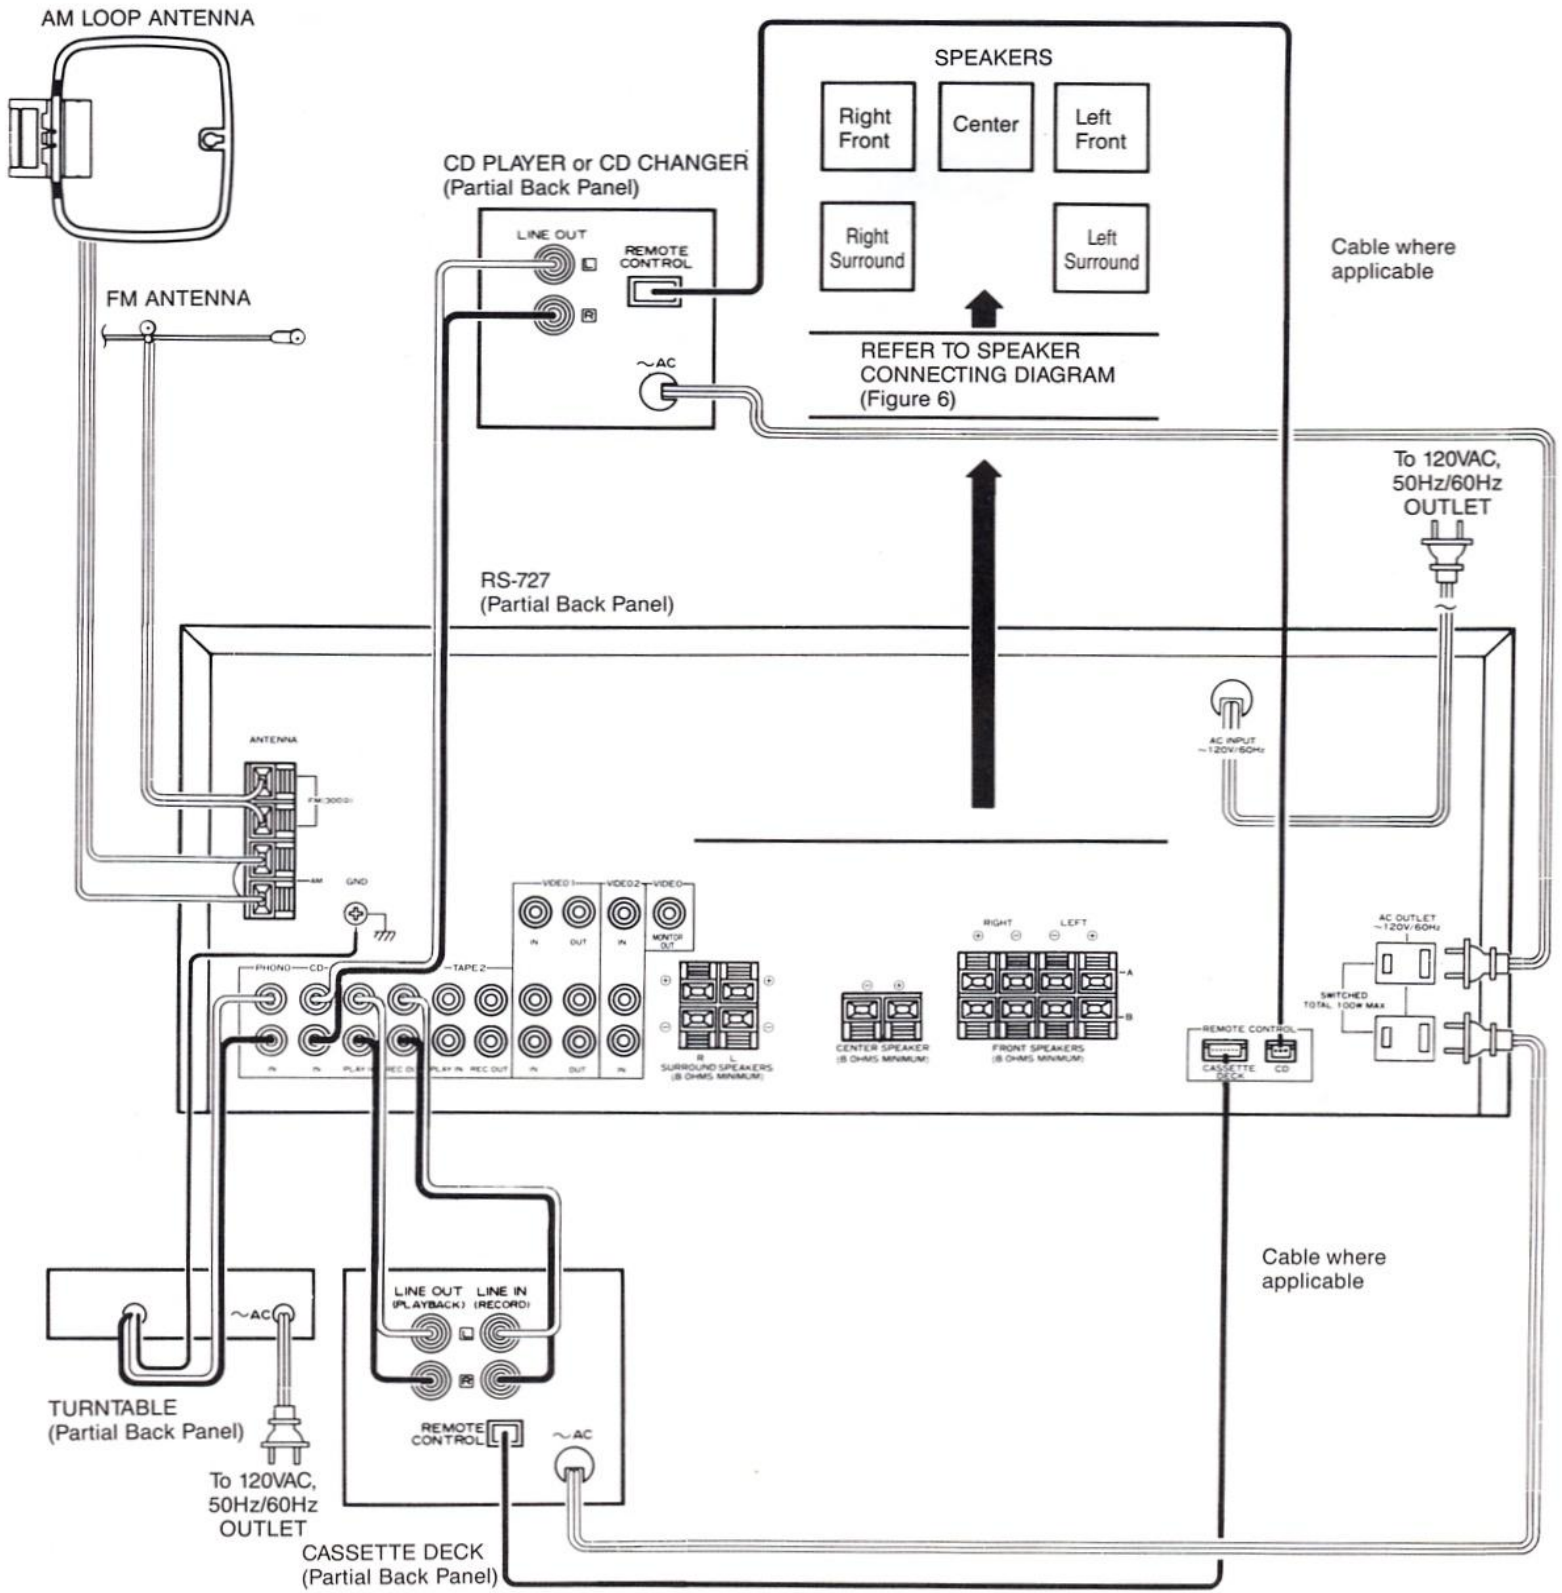
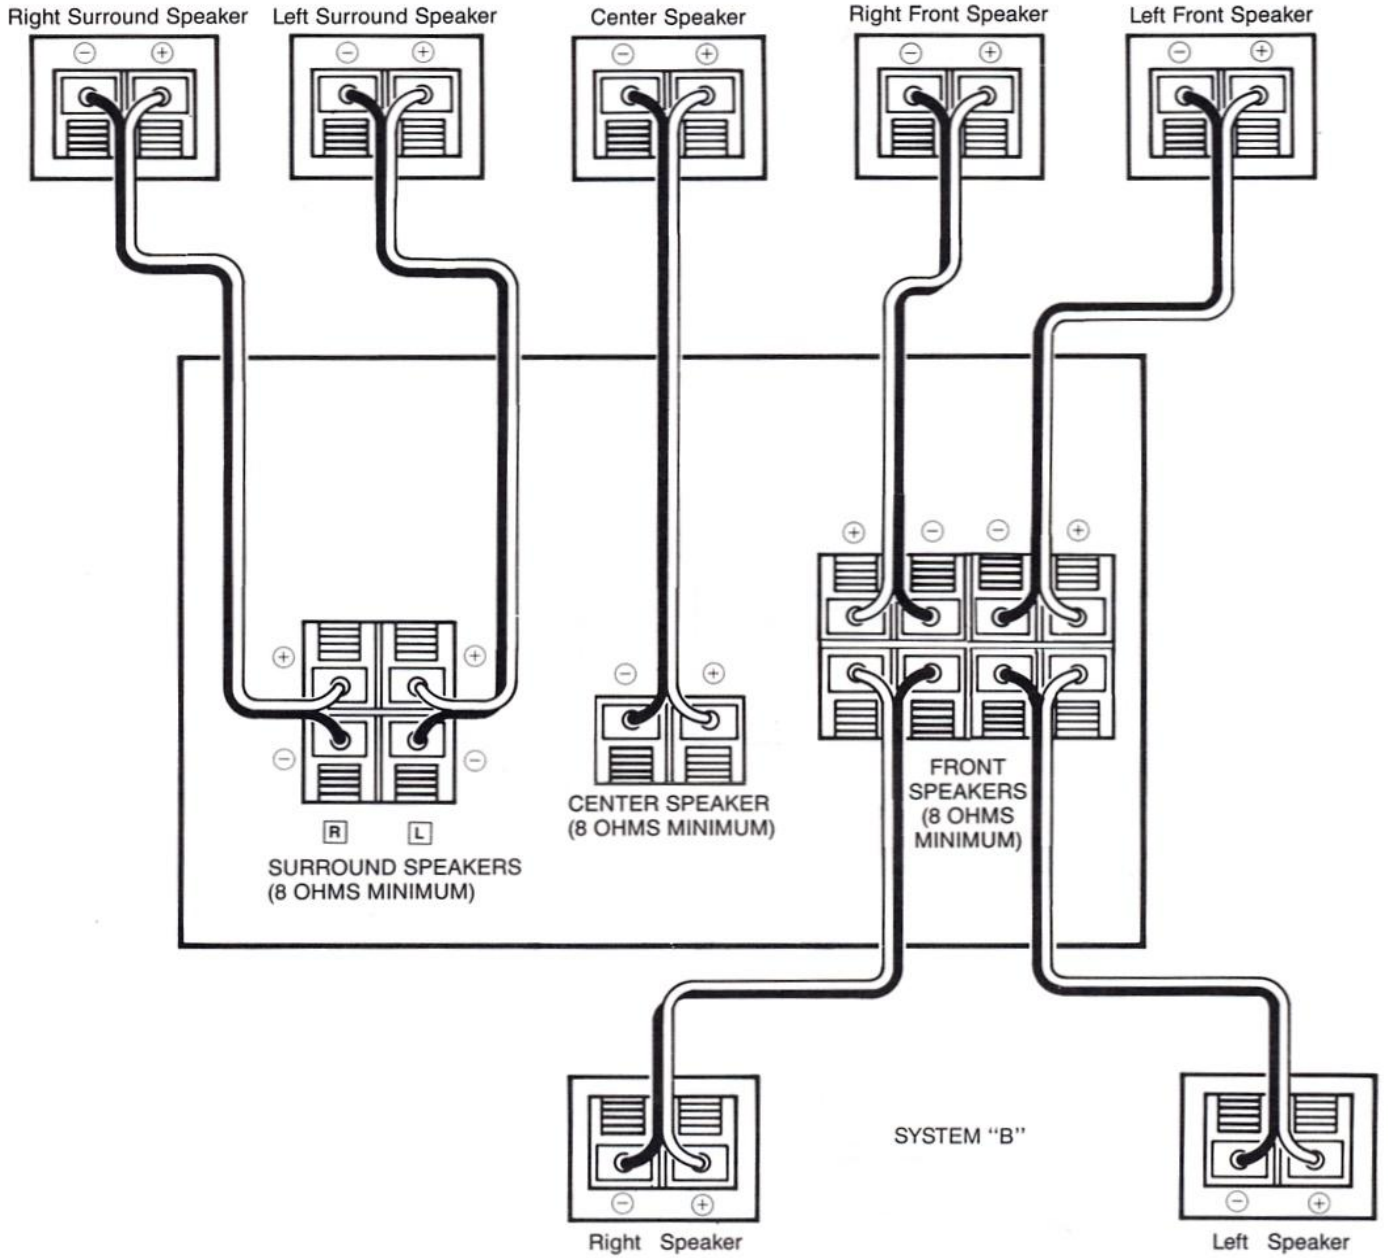

Figure 5
Figure 6
1. Connect the supplied FM dipole antenna to the ANTENNA terminals marked "FM (300Ω)" on the receiver as shown in Figure 5.
2. Connect the supplied AM loop antenna to the ANTENNA terminals marked "AM" on the receiver as shown in Figure 5.
3. Connect the audio cable from the turntable to the PHONO jacks on the receiver as shown in Figure 5.
Be sure to connect the ground wire from the turntable to the GND (Ground) terminal on the receiver, as shown in Figure 5.
4. Connect the audio cable supplied with the CD player or CD changer to the CD jacks on the receiver as shown in Figure 5.
5. Connect the audio cables supplied with the cassette deck to the TAPE 1 jacks on the receiver as shown in Figure 5.
6. When using a compatible Fisher CD player, CD changer or cassette deck, connect the remote control cables supplied with the above units as shown in Figure 5.
7. Eight terminals are provided for two pairs of MAIN speakers, SYSTEM-A and SYSTEM-B. If only one pair of speakers is used, connect them to the SYSTEM-A speaker terminals. Connect the front speakers to the terminals as shown in Figure 5 and Figure 6.
9. Connect the power cords from the CD player or CD changer and cassette deck to the SWITCHED AC outlets on the receiver. Refer to Figure 5.